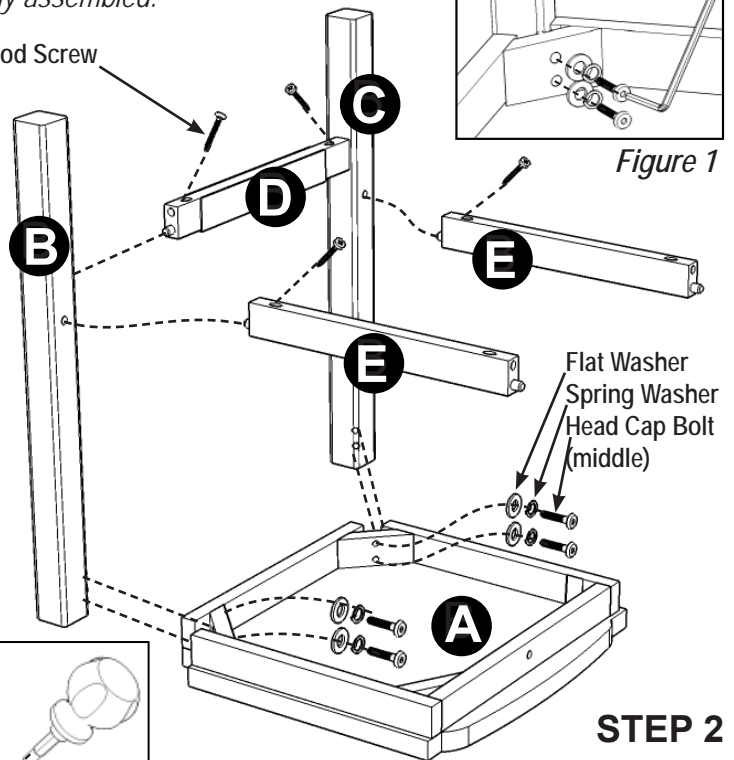

Figure 1
Attach Legs (C) to Seat (A) with Flat Washers, Spring Washers and Head Cap Bolts (middle). (See Figure 1)